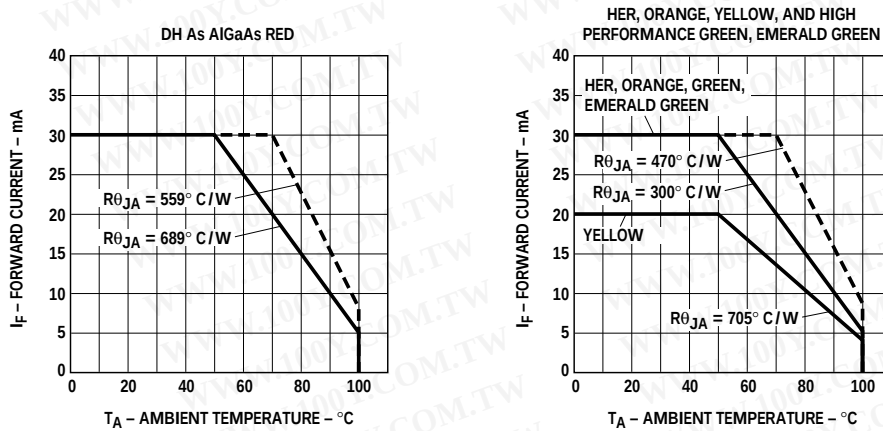

Figure 5. Maximum forward dc current vs. ambient temperature. Derating based on $T_{jMAX} = 110^\circ \text{C}$.
- See Figure 5 for maximum current derating vs. ambient temperature.